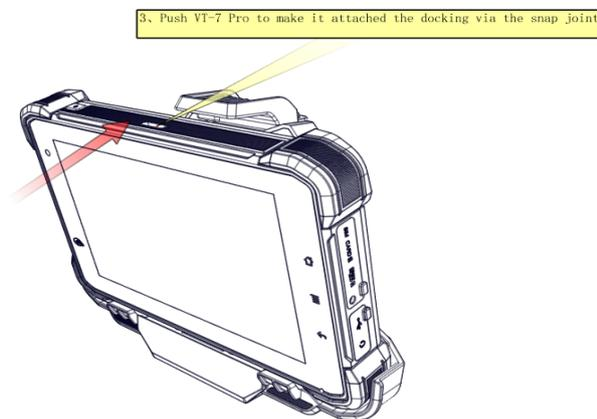

Fig. 4.3
4.1.3. Push VT-7 Pro to make it attached the docking via snap joint, as Fig. 4.3 shown.